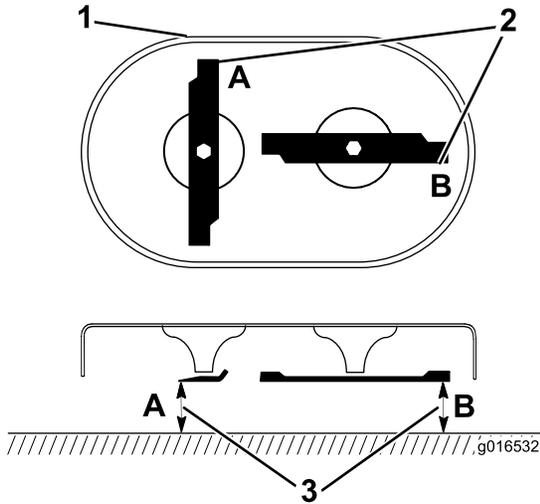

Figure 35
1. Rotate the blades until they are positioned as shown in Figure 35.